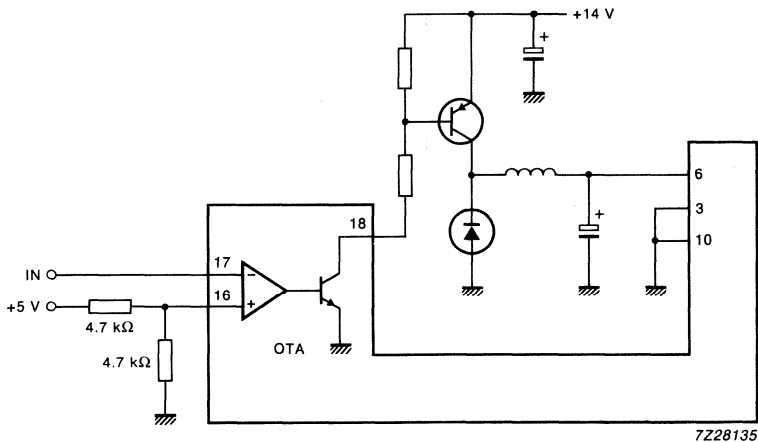

Fig.8 PWM drive of the output stages, OTA used as a level converter.
- With digital or PWM control an external switching transistor is necessary. The OTA can make the level translation and drive the power transistor (see Fig.8).